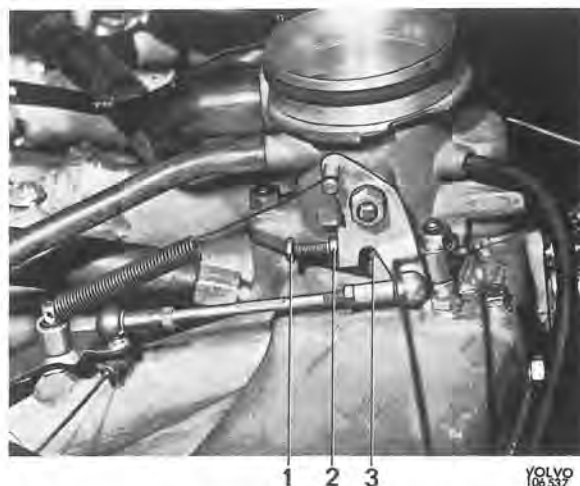

Fig. 2-142. Stop screw for throttle valve
1. Release the locknut for the stop screw (2, Fig. 2-142) for the throttle valve switch and screw out the screw a couple of turns so that it does not lie against the stop on the throttle valve spindle. Check to make sure that the switch is fully closed.